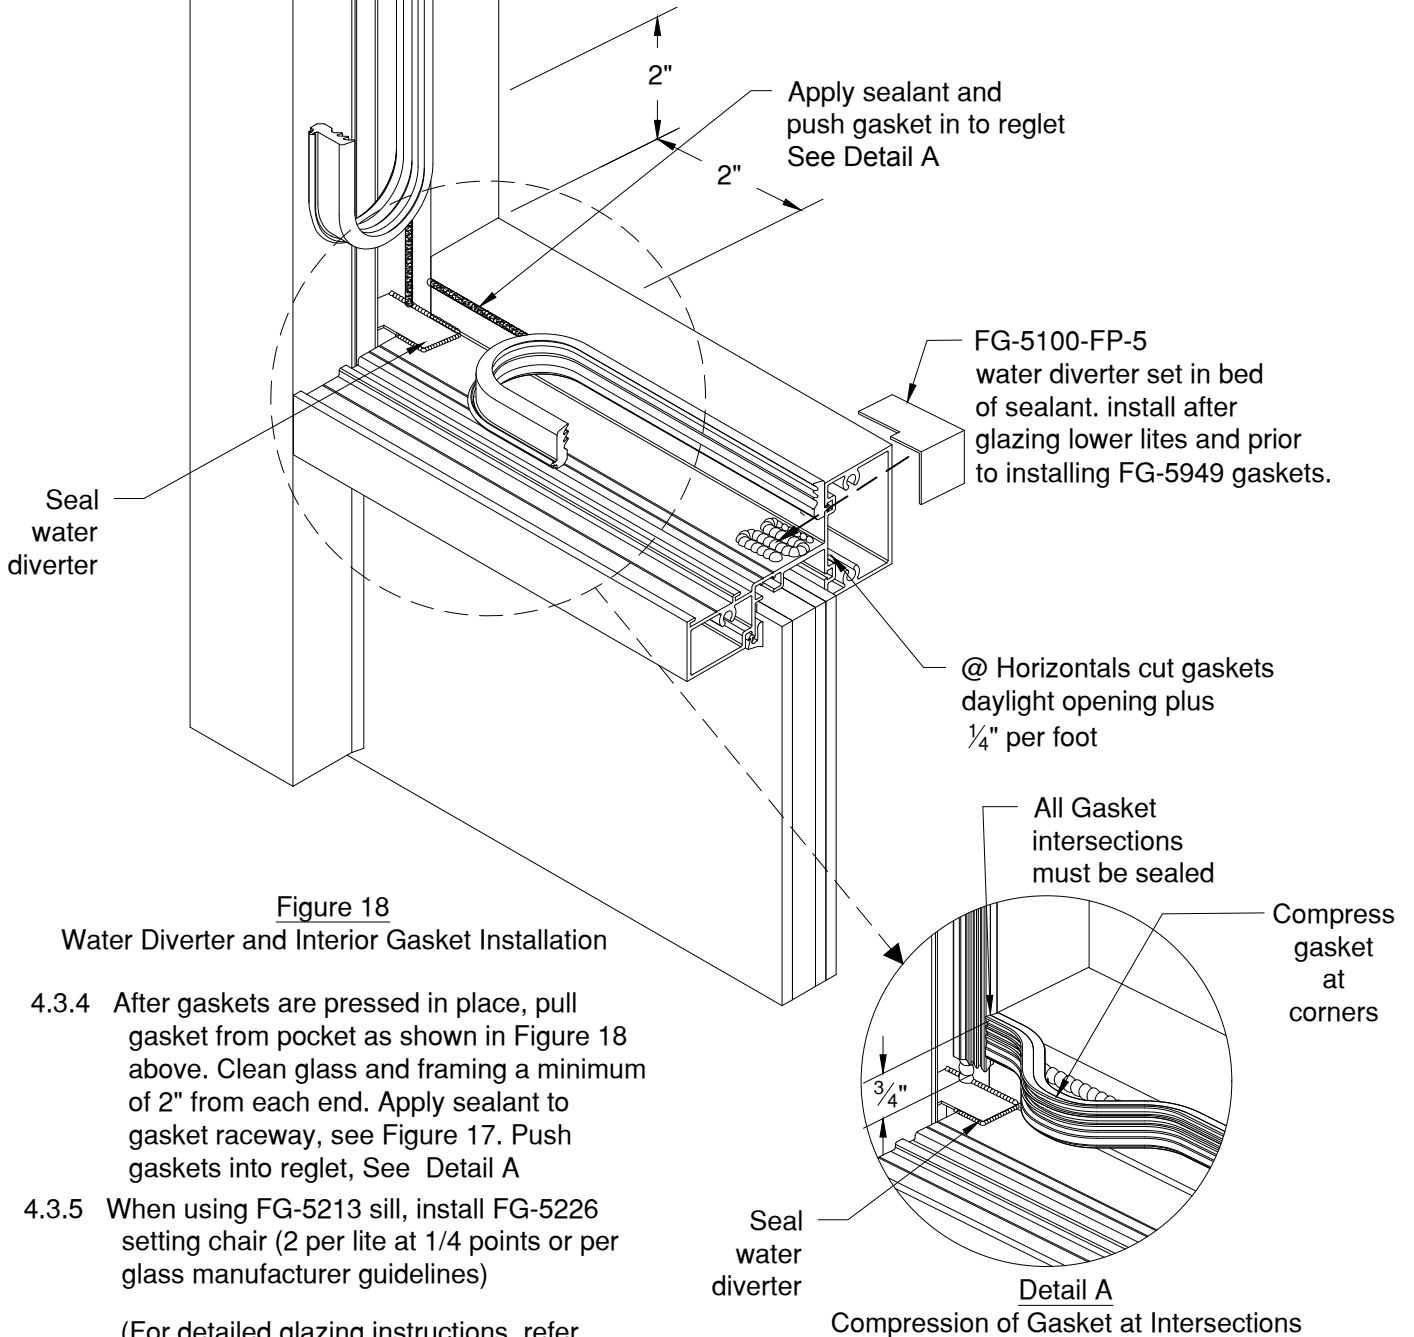

Figure 18
- 4.3.2 Install water diverters as shown on at Figure 18 after lower lite is in position.
4.3.4 After gaskets are pressed in place, pull gasket from pocket as shown in Figure 18 above. Clean glass and framing a minimum of 2" from each end. Apply sealant to gasket raceway, see Figure 17. Push gaskets into reglet, See Detail A